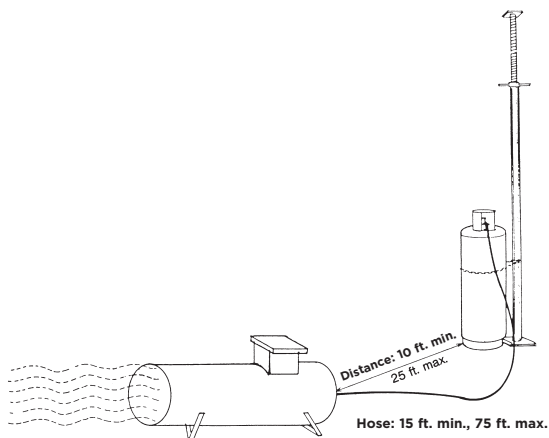

Figure 32-5: Proper Set-Up of Propane Cylinder and Heater
- Cylinders should be secured and kept at least 10 feet away from the heaters. The cylinder should be placed well clear of any heat source and never at the flame end of a heater. Hose length must be between 15 feet and 75 feet (Figure 32-5).